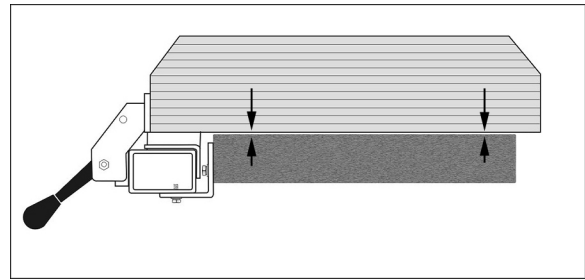

Figure 8
1. Check clearance between table and bottom of fence (Figure 8). The fence plate should not rub against table surface but be slightly above it. This gap should be the same at both front and back of table.